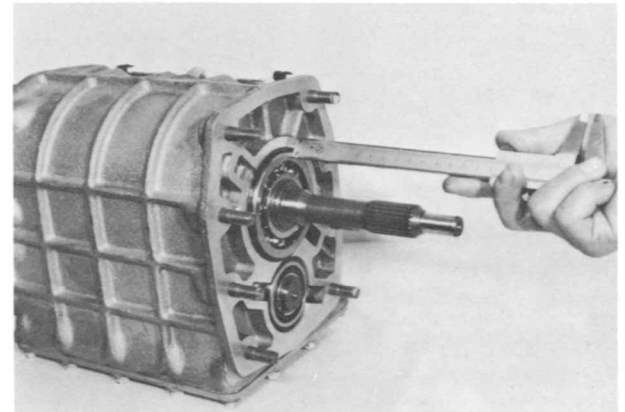

Fig. 7-39 Measuring bearing height
51. Check the bearing end play as follows: Measure the depth of the main drive shaft bearing bore in the clutch housing using a depth gauge. Then, measure the bearing height shown in Fig. 7-39. The difference between two measurements indicates the